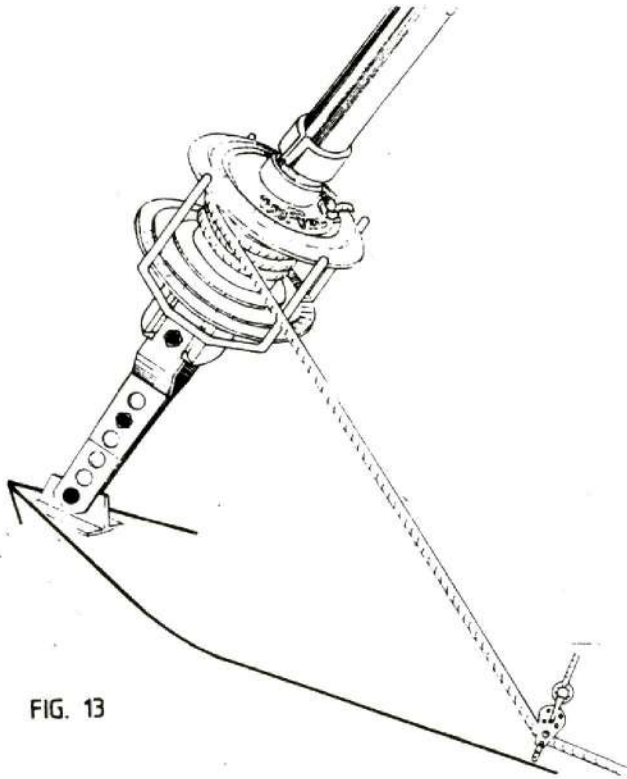

FIG. 13
- II. The drum cage has four retaining arms. Lead the reefing line between one pair (see fig. 13 & 14).